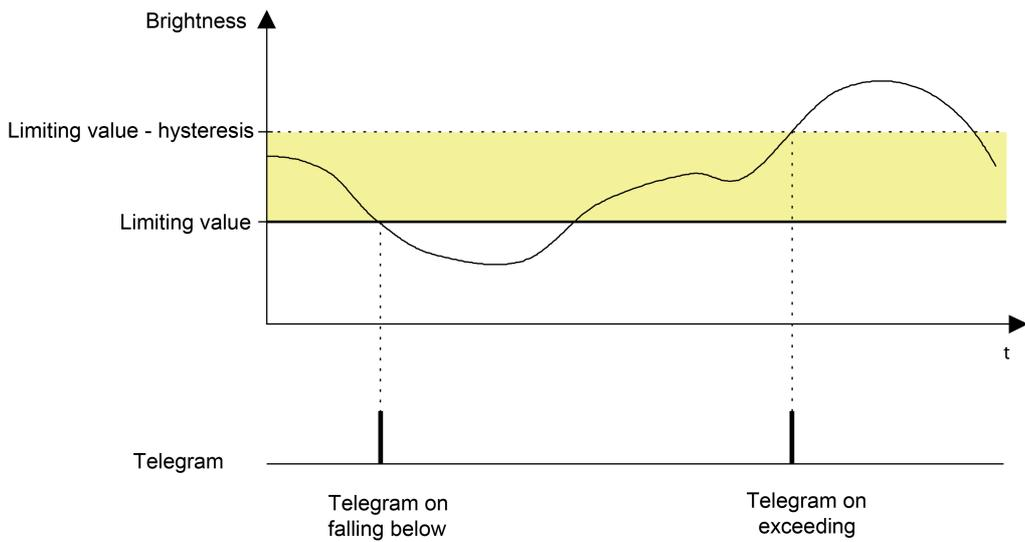

Figure 31: Example 2 of the limiting value definition
2. Brightness limiting value = Lower threshold (figure 31)